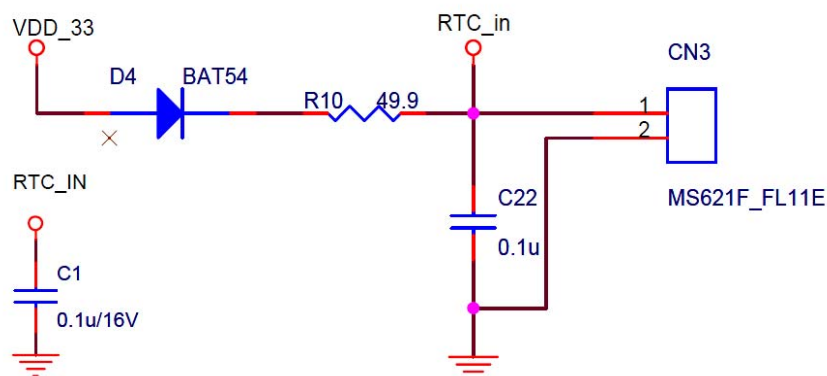

Figure 37: RTC Battery Reference Circuitry
To implement the RTC Battery according to the Underwriters Laboratories Inc (UL) guidelines, battery cells must be protected against a reverse current going to the cell. This can be done by either a series Schottky diode or a series resistor. The safest way, and the one recommended by the *SMARC* Consortium, is to implement a RTC battery circuitry using a Schottky diode as shown in Figure 37. The diode is placed in series with the positive battery terminal. The diode anode is on the battery side, and the cathode on the Module *VDD_RTC* side.